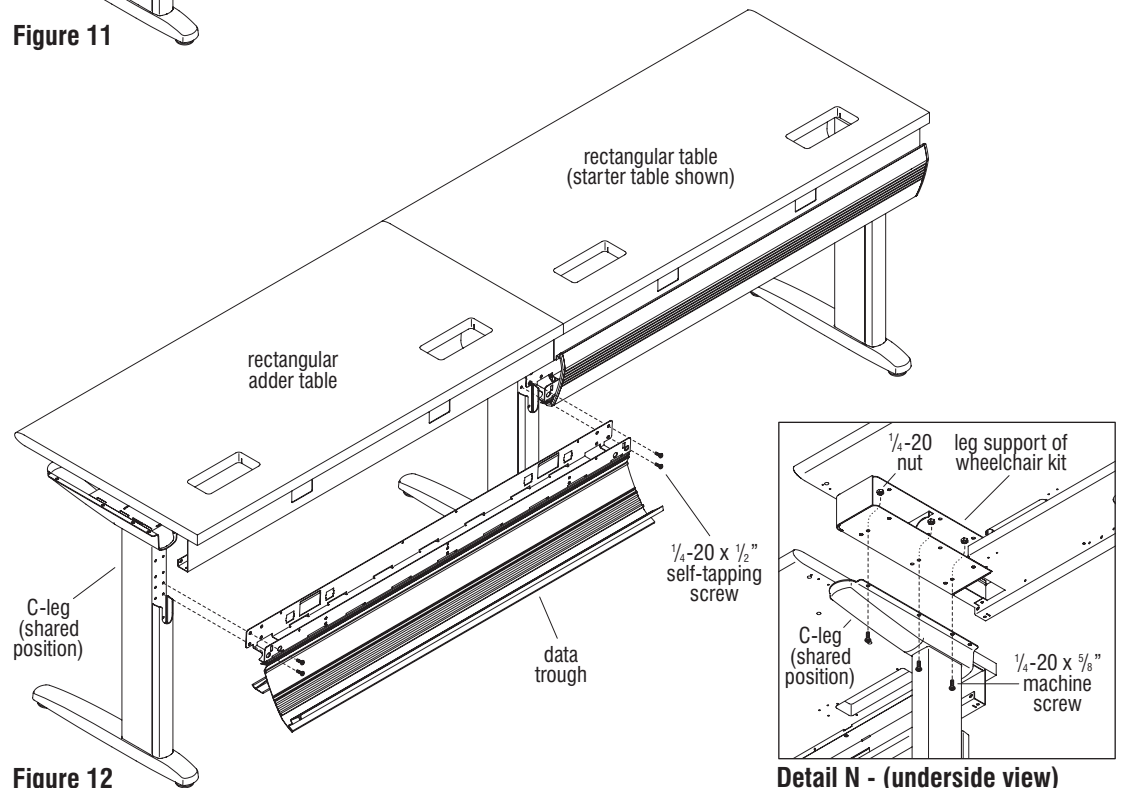

Figure 12
4. Open the doors on the data trough to be installed. Proceed to the non-user side of the adder rectangular table. While facing the back, non-user side of the table, align the mounting holes of the data trough with the mounting holes on the back of both C-legs. The adder table utilizes a shared position C-leg, reference page 10, Detail M for correct holes and mounting location on the C-leg (Figure 12 & page 10, Detail M).